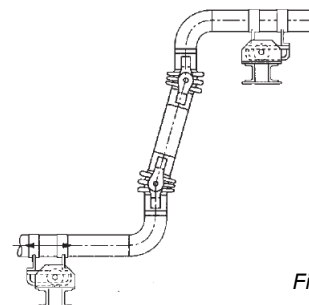

Fig. 13
- When installing angular and gimbal expansion joints (fig. 13), which can take up lateral expansion only in one plane, pay attention to consistency between the direction of the pipe expansion and the movement capability of the expansion joints (perpendicular to the bolt axis). The nominal angular expansion capacity can be taken from the technical data sheets. Angular expansion joints have no special demands on guide supports. For short-leg boiler and turbine room pipelines guide bearing is not necessary.